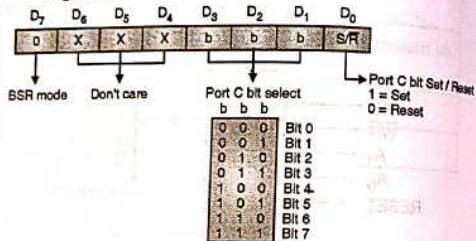

Fig. 9.4.1 : BSR control word format
- The control word format of BSR mode is as shown in Fig. 9.4.1.